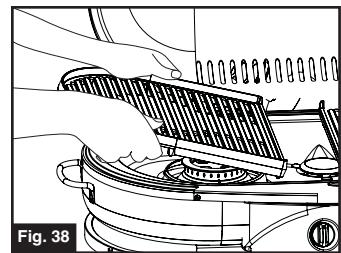

Fig. 38
- Remove the cooking grates set aside. (Fig. 38)